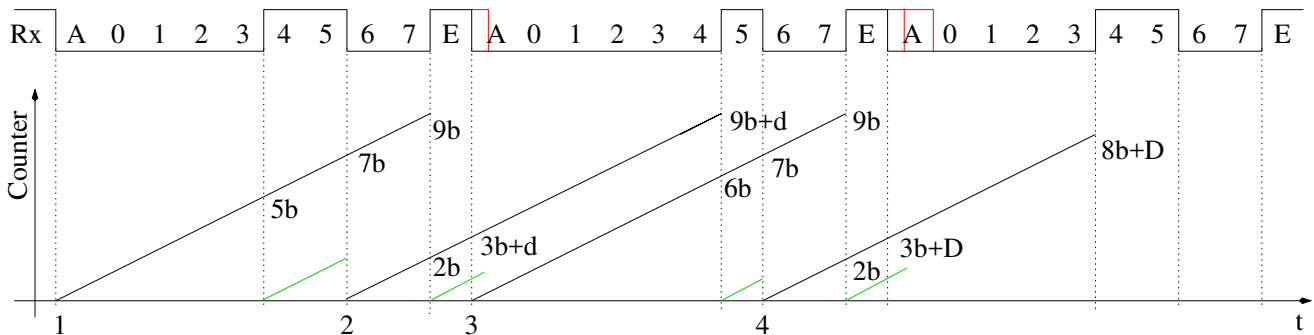

Figure 3.6. Possibel timer measurements for the STK_GET_SYNC sequence
If you specify a baud rate below $100Baud$ for generating the bootloader code, the program will be prepared to detect the baud rate from the first received character. At the begin if the transmission with the STK500 protocol the computer send a command `STK_GET_SYNC` (0x30) followed by the control character `CRC_EOP` (0x20). For the serial transmission protocol the High level (1) is defined as the idle state. The begin of a transmission is started by s start bit with Low level (0). Directly after the end of the start bit the first data bit is send beginning with the low order bit. After the last of the agreed count of bits (8) is transmitted, the transmission is finished with one or more Stop bits at High level (1). The level of every bit is hold exactly the agreed baud time. The time between the end of the last Stop bit and the begin of the next Start bit is unspecified. The figure 3.6 shows the expected results for all possible time measurement. At the time axis "t" four possible start positions are marked for a complete time measurement of the assumed character. The counter
is started in each case of a detected 1-0 slope. The right start position for the STK_GET_SYNC character is marked with "1". The marks "2", "3" and "4" show the situation for three possible wrong Start bit detections. For the mark "2" and "4" a 1-0 slope of data bits is detected as Start bit in a wrong way. For the mark '3' is a Start bit correctly detected, but for the wrong character (CRC_EOP). The wrong detections are allways possible, if the bootloader is started not before the transmission was running. The expected counter values are marked at the counter level graph for all four start positions in figure 3.6. The "b" means the counter reading for one bit transmission time (baud time), the "d" stand for a possible time delay between the end of the Stop bit transfer and the start of a new Start bit. The "D" represents a expected long time delay to the begin of the next message. The transmit sequence of the message has reached it's end and the computer wait for an answer of the AVR. In the "Rx"-row the data bits are labled with "0" (least significant bit) to "7" (highest significant bit). The Start bit has the label 'A' and a Stop bit has the label 'E'. The first byte is the coding of the STK_GET_SYNC character and the second byte is the coding of the control character CRC_EOP.